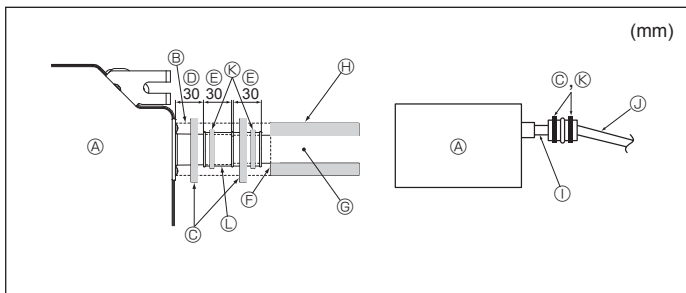

Fig. 3-2
- ② Up to 850 mm
1. Connect the drain socket (supplied with the unit) to the drain port. (Fig. 3-2)